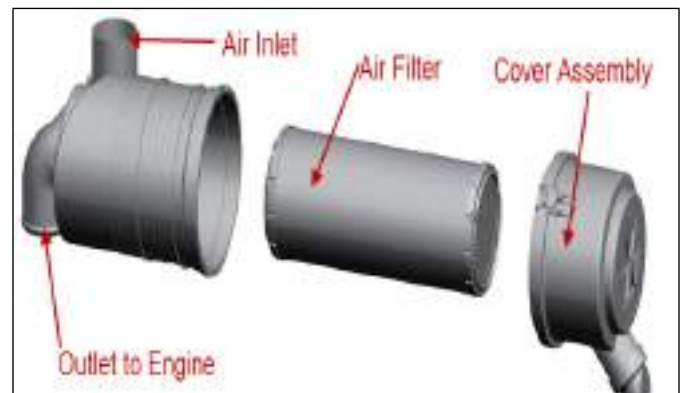

Figure 2-23: Air Filter Assembly
3. Inspect the filter element. **See Figure 2-23.** Put a bright light inside the filter element and look for holes or other damage.